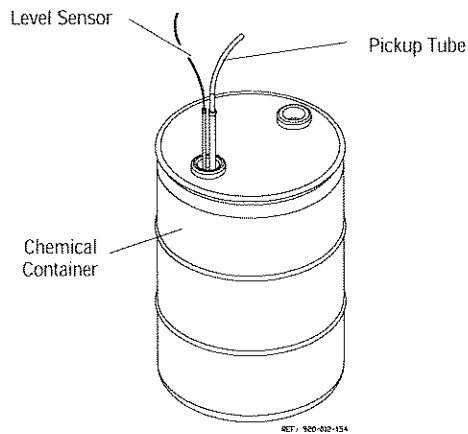

Figure 3-8. Chemical Container
9. Verify detergent supply (at a remote location). Ensure pickup tubes are in good condition and placed in containers (see Figure 3-8). If supplies are low or have run out, install new containers (see Section 6.4, *Replacing Chemical Container*).